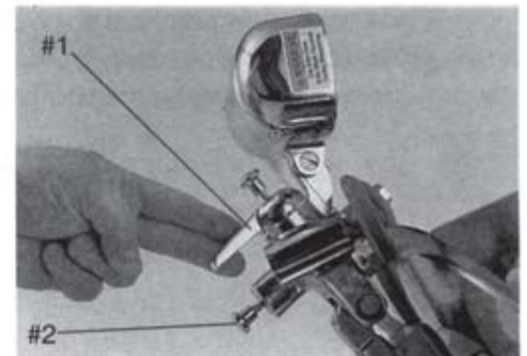

Figure 20-2
4. Turn the handle counterclockwise (Fig. 20-2, #1) to bring stones into contact with the knife. Maintain pressure on the handle for 10 seconds. Be sure both stones are in contact with knife. Repeat operation until knife is sharp. Slicer must be restarted every 10 seconds.
**NOTE: If knife becomes very dull,** activate only the bottom stone by pushing in Knob #2. (Fig. 20-2)